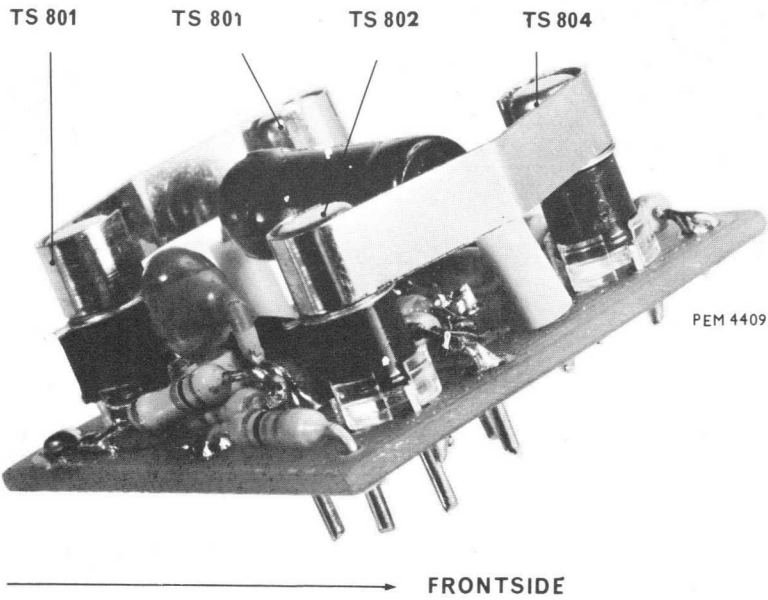

Fig. 1
1. Replacing the above mentioned tubes by each an impedance converter (Fig. 1)